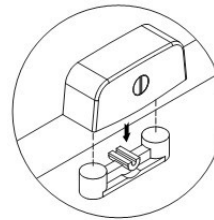

**Figure 3**
2. **Installing the Side Panels:** Insert the right and left side panels (B) into the groove of face frame (A) and align the cam lock connectors (Figure 2). Lock the cam lock with screwdriver by turning the screw 180° degrees clockwise (Figure 3).